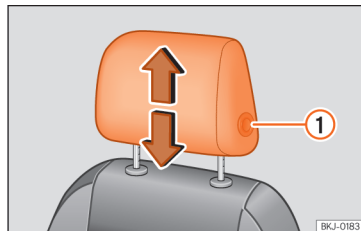

Fig.119 Front seat: headrest adjustment.
- Move the headrest up or down in the direction of the corresponding arrow. Regarding the rear headrest, to both raise and lower, press the button » Fig. 119 ①; for the rear headrests it is only necessary to press the »
- Press the side button »» Fig. 119 ① and remove the headrest.